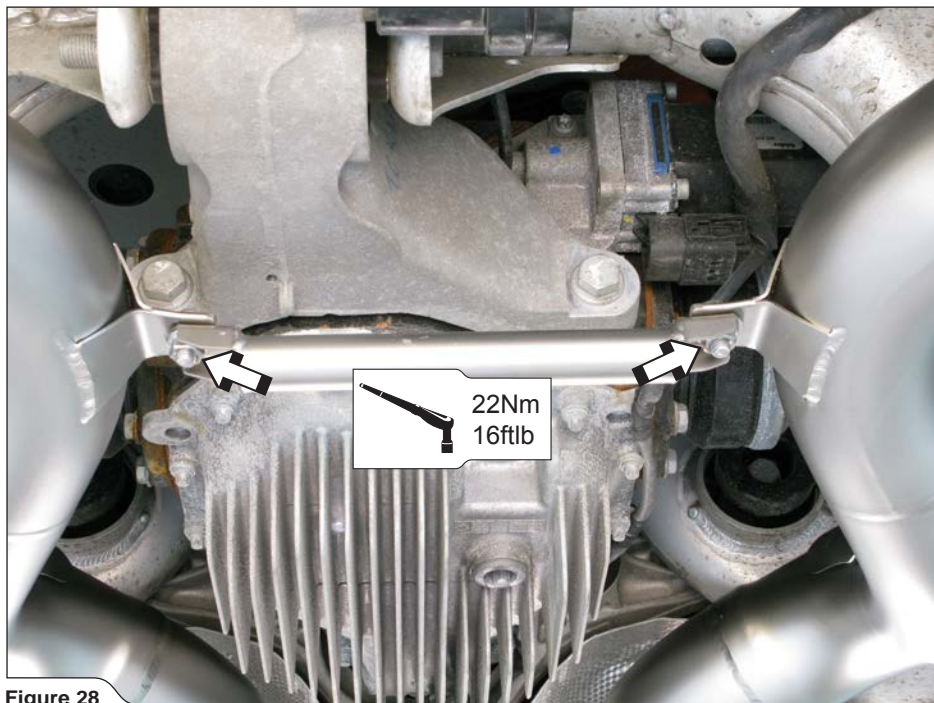

Figure 28
9. Center the mufflers in respect to the rear bumper's tail pipe outlets and chassis, than tighten the collector's linkage, using bolts and nuts from Akrapovič installation kit (**Figure 28**).